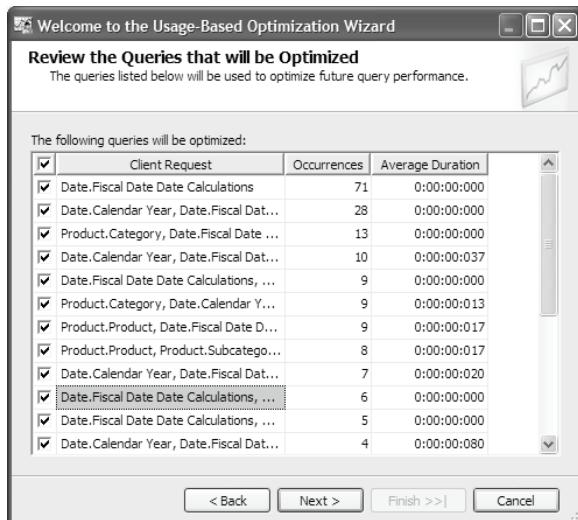

Figure 14.16 You can exclude queries from usage-based optimization.
3. Click Next to advance to the *Review the Queries that will be optimized* step (Figure 14.16). The wizard groups the identical queries and shows the names of the attributes that were used to satisfy the query. By default, all queries will be used for the aggregation design but you could filter out queries. For example, if a given query executes very fast, it may not make sense to include it in the usage-based optimization process.